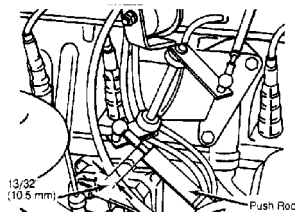

Fig. 9: Adjusting Vanagon Accelerator Rod
3) Loosen adjustment nut and remove override spring. See Fig. 9. Start engine and readjust idle speed, if necessary. Turn engine off.